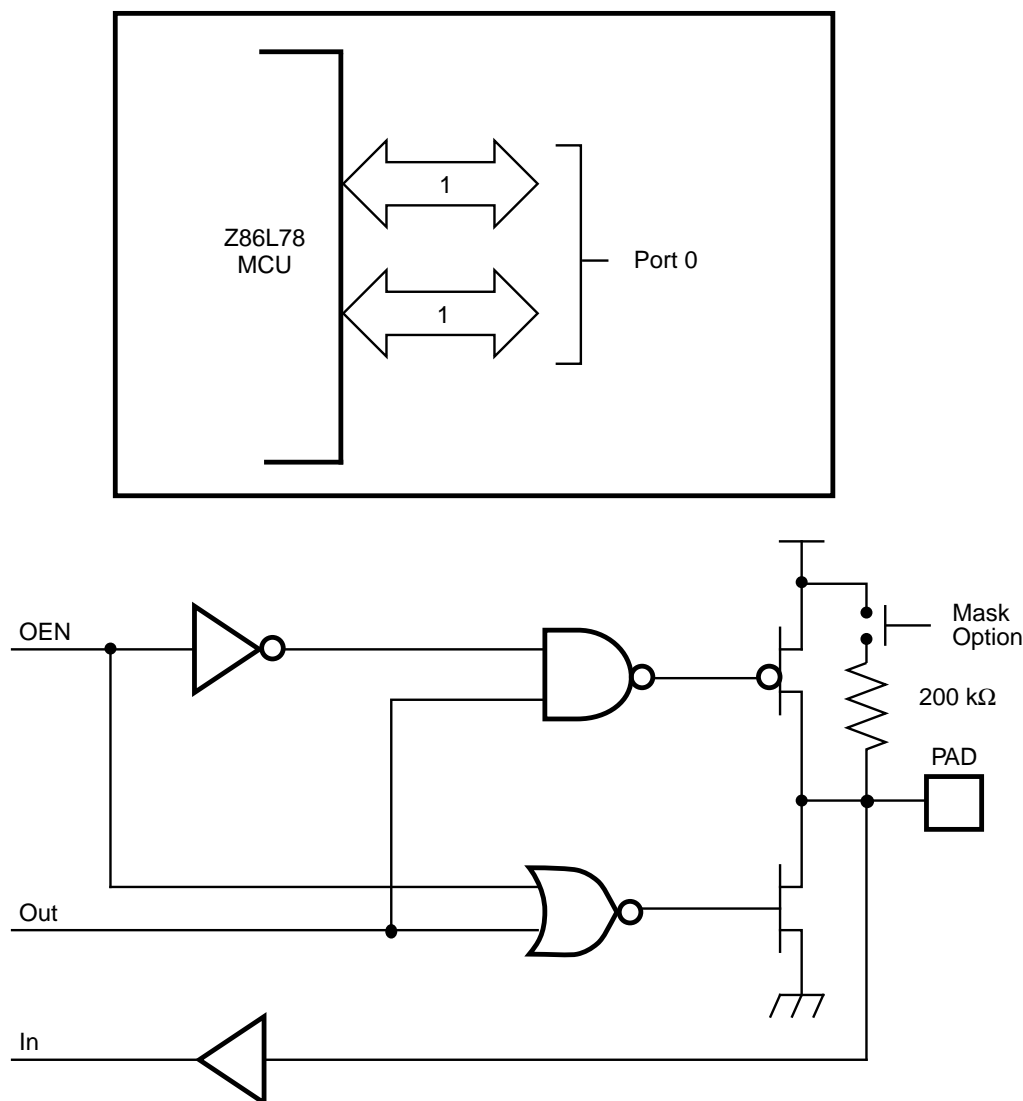

Figure 9. Port 0 Configuration
**Comparator Inputs.** In Analog Mode, Port 3, P31 and P32 have a comparator front end. The comparator reference voltages are on P33. The internal P33 register and its corresponding IRQ1 is connected to the Stop-Mode Recovery source selected by the SMR. In this mode, any of the Stop-Mode Recovery sources can be used to toggle the P33 bit or generate IRQ1. In digital mode, P33 can be used as a Port 3 register input or IRQ1 for P33 (Figure 9).